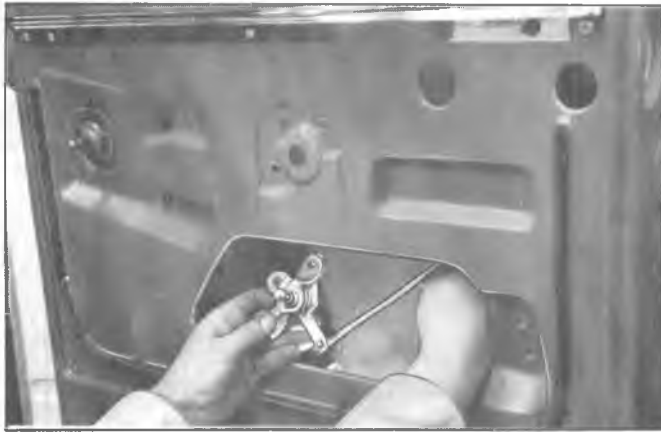

Fig. 40—Side Rear Door Center Remote Control Assembly Removal
2. Remove three (3) screws from center remote control mechanism and remove with attaching rod and spring clip. (See Figure 40.)